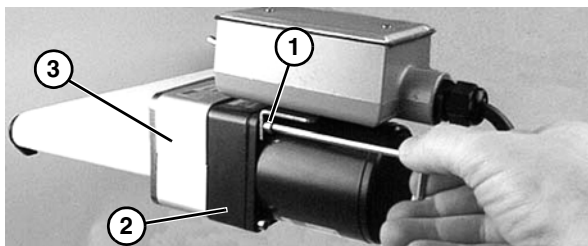

Figure 55
3. Remove four (4) screws (Figure 55, item 1). Remove gearmotor (Figure 55, item 2) and top cover (Figure 55, item 3).
7. Insert top cover (Figure 55, item 3) into bottom cover. Mount assembly with two (2) top screws (Figure 55, item 1). Tighten to 45 in-lb (5 Nm).